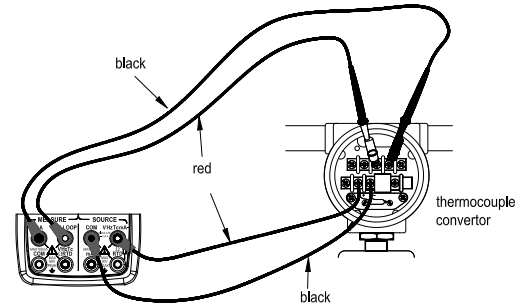

Figure 14 Using 24v loop power circuit supply
Step 2: Connect the calibrator with the loop current terminal of the converter as shown in Figure 14.